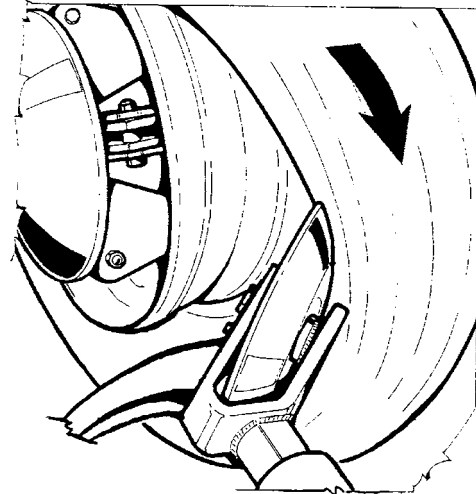

Fig.32
5. Demount the inner bead with the bead breaker disc, as described in #5.2.7. (fig.32).